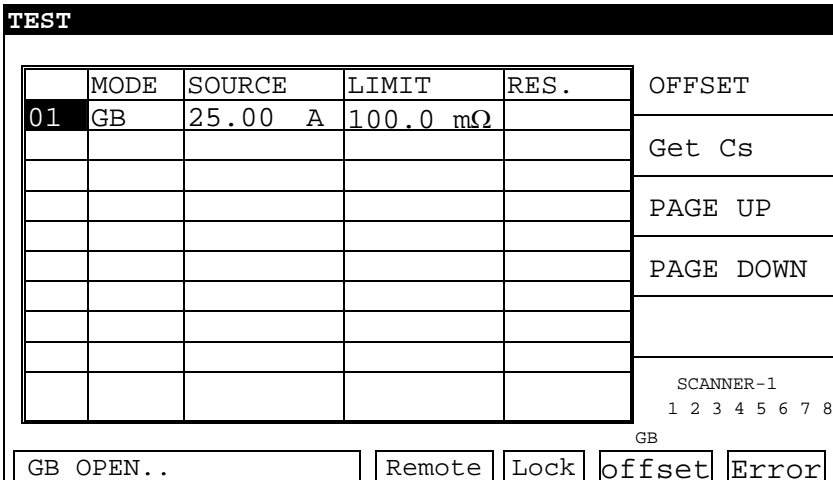

Figure 4-10
6. Meanwhile, the output is stopped and DUT can be changed. When the test cable exits from DUT, the screen as Figure 4-10 shown.